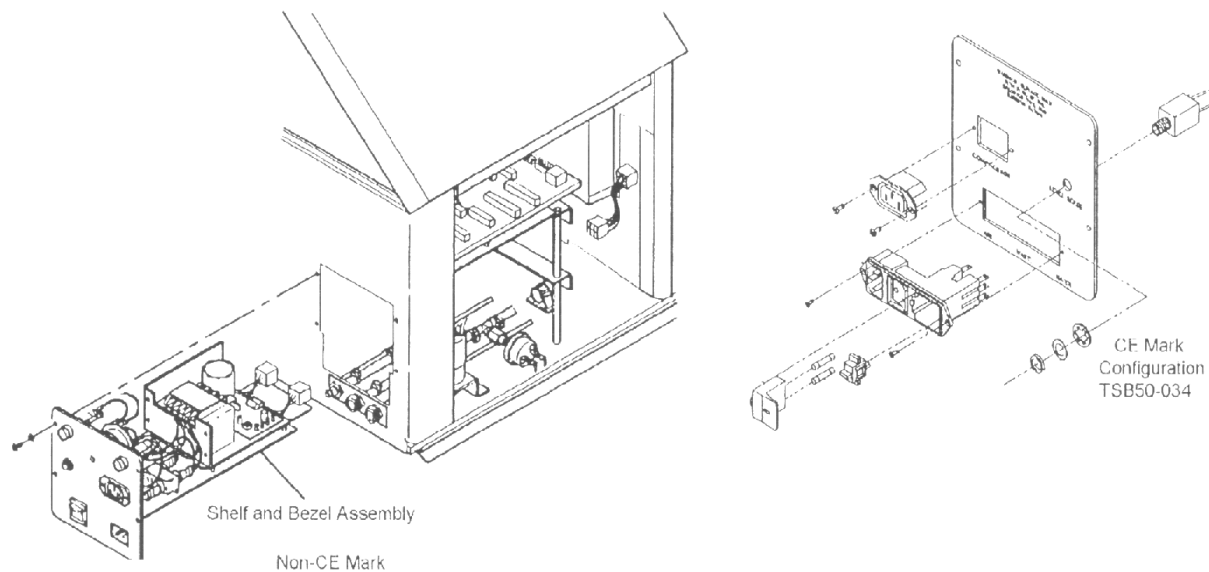

Figure 4-50. Shelf and Bezel Assy
4. □ Remove mounting hardware from four places (**Figure 4-50**).